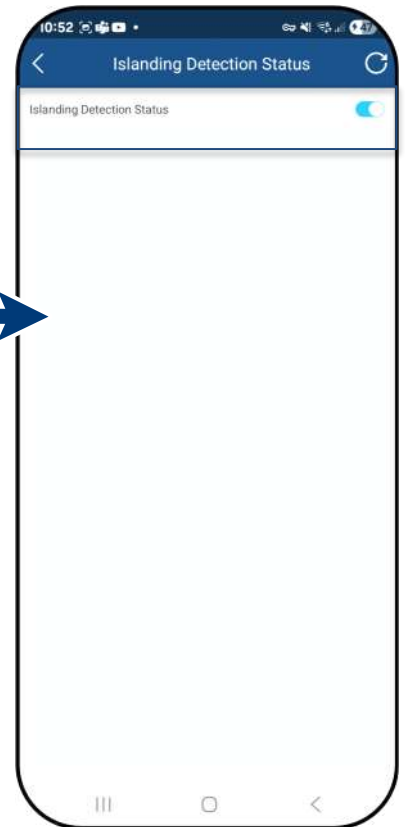
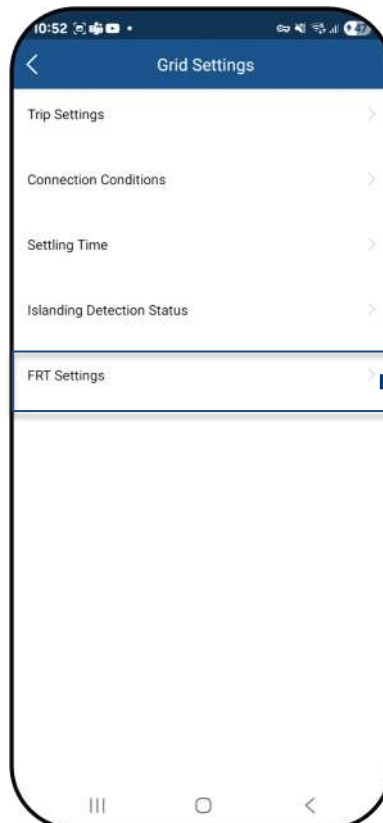

Fig. 124. Set insulation resistance and DC parameters
Fig. 125. Choose FRT-Settings
**Legend for Fig. 124+Fig. 125:**